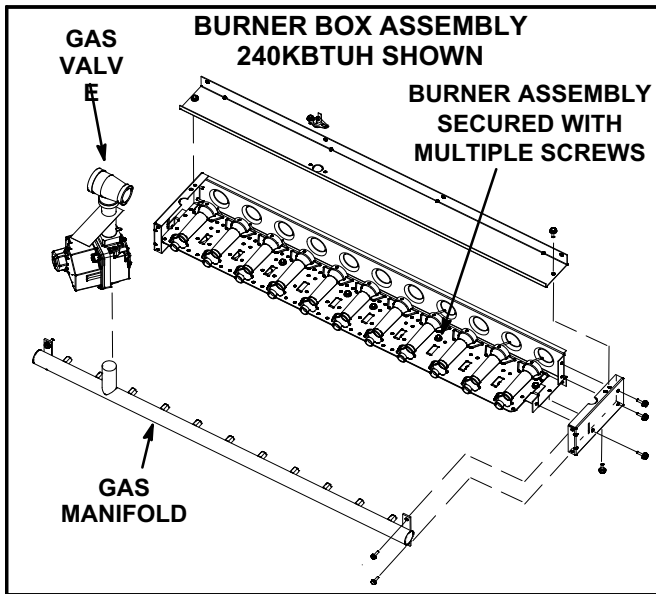

FIGURE 31
- 3- Remove screws securing burner assembly to burner support and remove assembly. See figure 31. Clean as necessary.